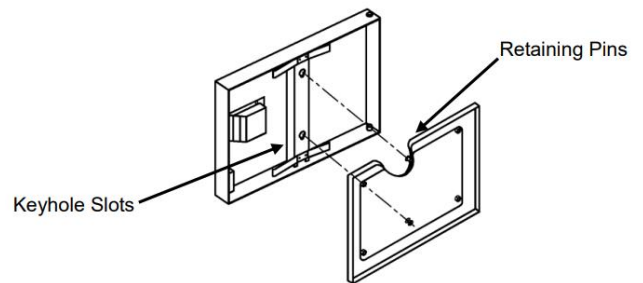

Figure 6-1
- Remove the door gasket assembly (see Figure 6-1).